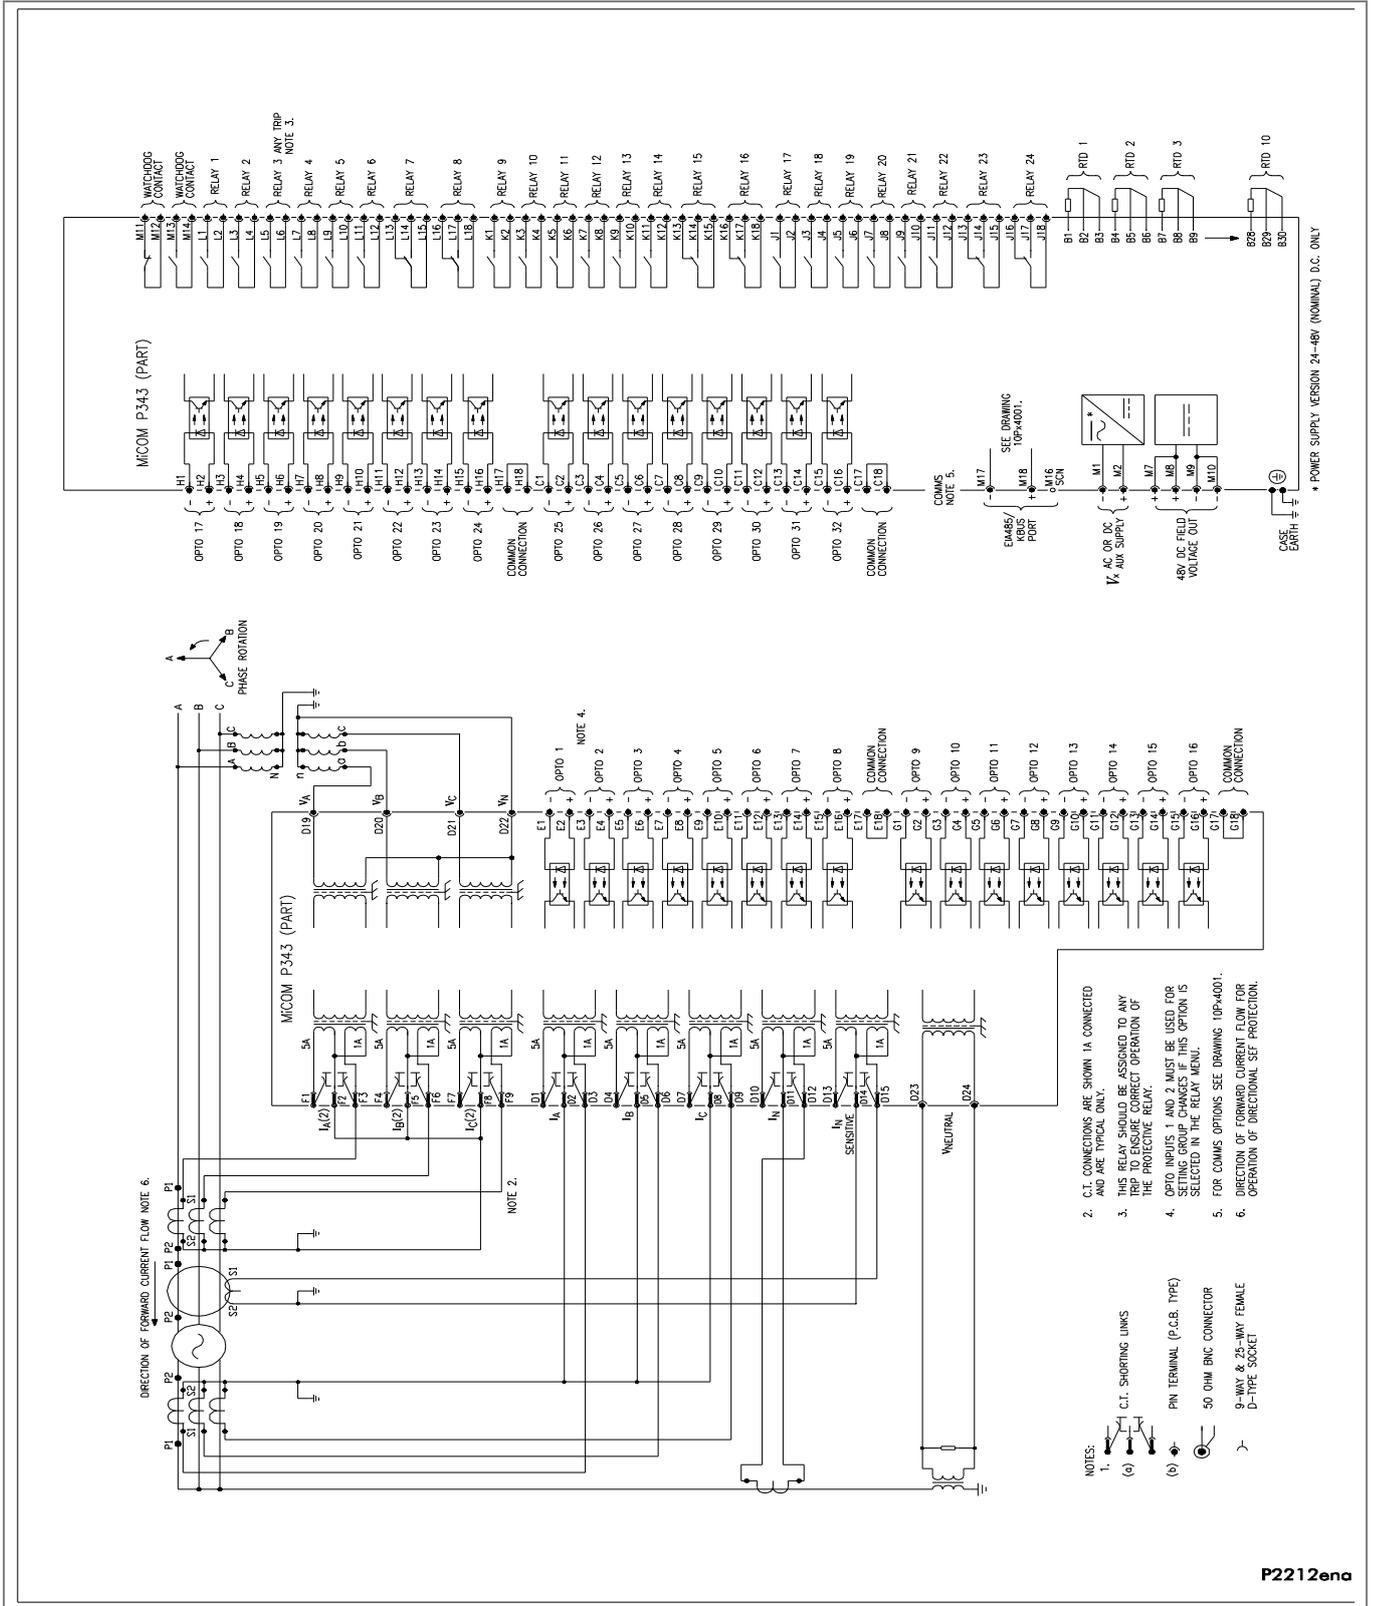

Figure 35 - P343 (80TE) with biased differential (32 I/P & 24 O/P & RTD's)
- Figure 35 - P343 (80TE) with biased differential (32 I/P & 24 O/P & RTD's)